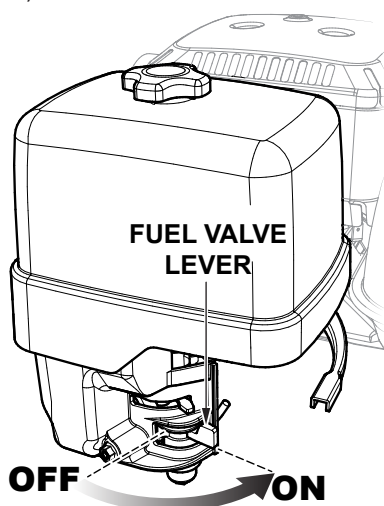

Figure 20. Engine Fuel Valve Lever (Open)
1. Place the engine fuel valve lever in the **OPEN** position (Figure 20).